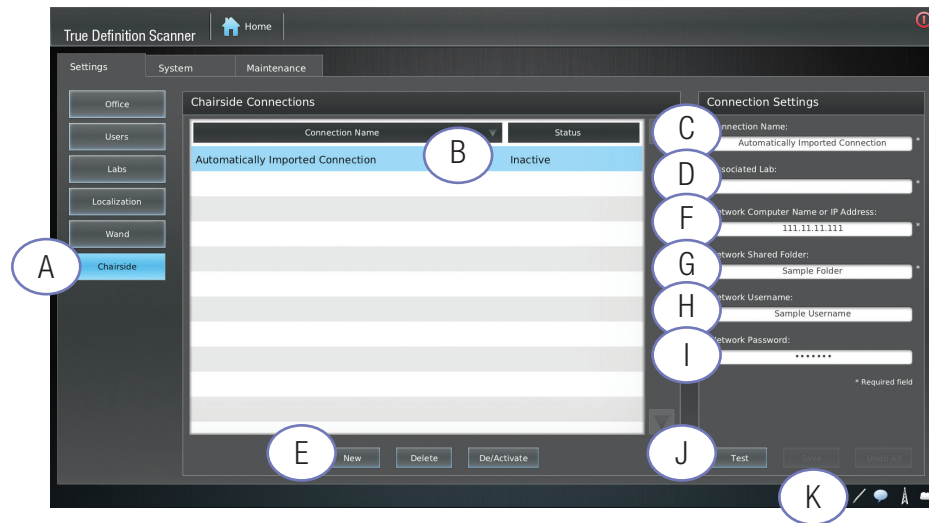

Figure 9. Settings — Chairside Screen — Existing Chairside Connection
1. The **Connection Name** is labeled as “Automatically Imported Connection.”(refer to Figure 9) (Callout B).